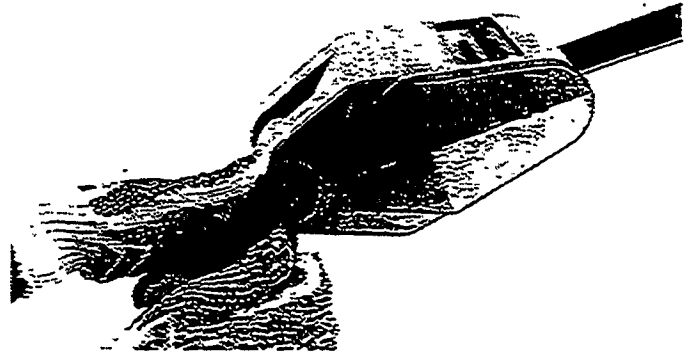

Figure 28
- Tighten the blade bolts as tight as possible using method shown in (Figure 28).